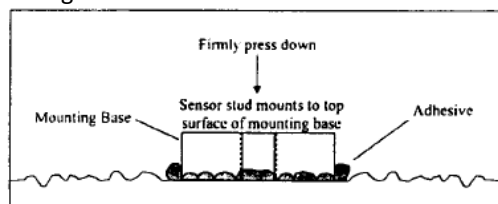

Figure 7. Mounting Base: Adhesive Installation
**STEP 3:** Place a small portion of adhesive on the underside of the mounting base. Firmly press down on the assembly to displace any extra adhesive remaining under the base. See Figure 7.